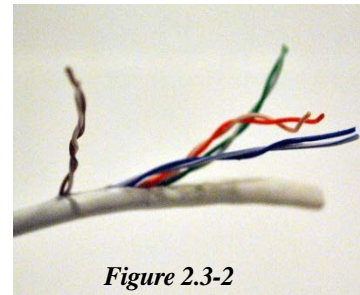
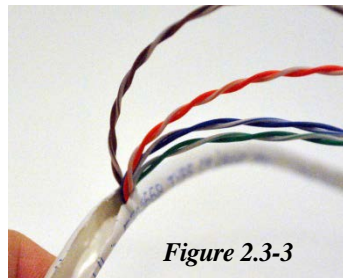

Figure 2.3-2
Figure 2.3-3
2. Then pulling the brown pair of wires tear the jacket back about 15" (38 cm) as shown in Figure 2.3-2 and Figure 2.3-3